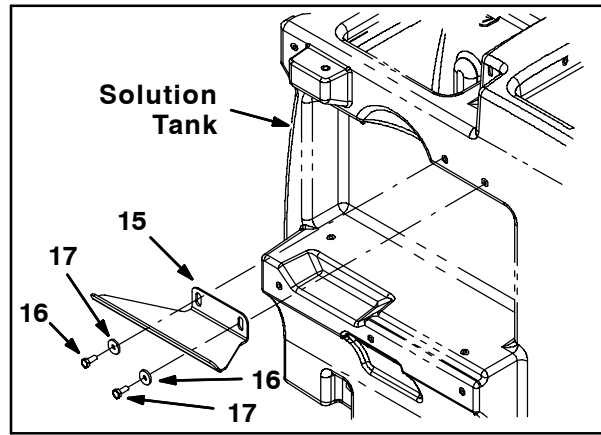

FIG. 8
28. Use two hex screws (16) and two flat washers (17) to install the spray wand mounting bracket (15) onto the recovery tank. Refer to Fig. 8.